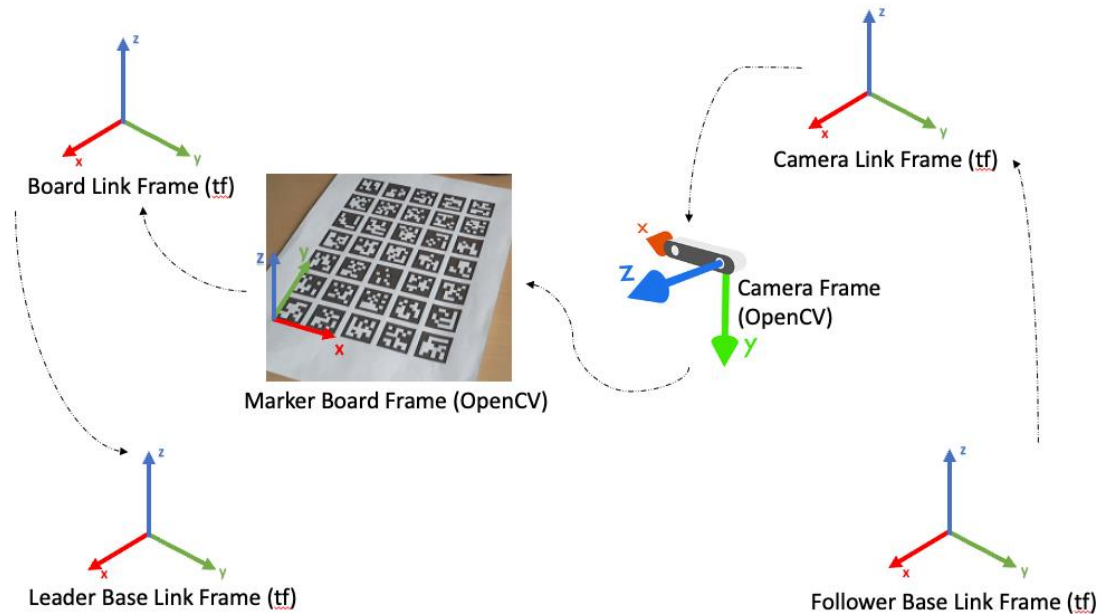

Figure 2. Coordinate Systems (Right-Handed)
1. I started with reading multiple documentations to confirm the unconventional coordinates used by OpenCV for the camera and the board. This was important when we tried to chain the transform from the follower base to the leader base. The coordinate frames of different links are drawn in Figure 2. If the position of the leader relative to the follower is defined as “front”, all of the links in ROS tf tree (as consistently defined by our URDFs) have  $x$  facing forward,  $y$  facing left and  $z$  facing upward. These include follower base link, camera link, board link, and leader base link. The camera frame